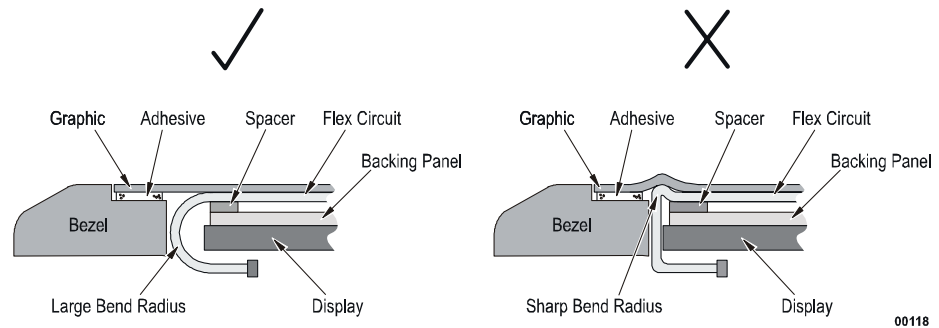

Figure 14: Cross section of front mounting method
- Include an overhanging graphic area with a rear mounting adhesive (Figure 14).